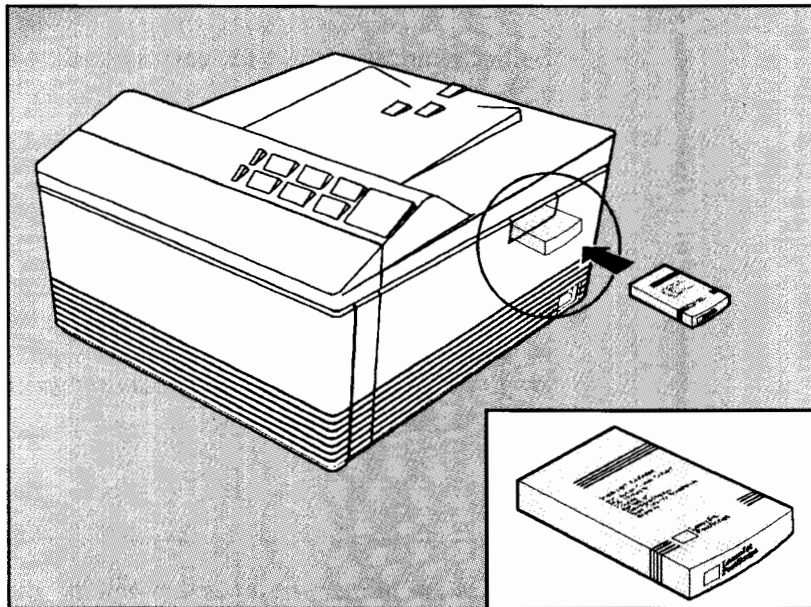

Figure 6-10. Inserting a Cartridge
3. Slide the cartridge into the slot on the right side of the printer and push until the cartridge is firmly in place (figure 6-10). You should hear and feel the cartridge snap into place. **Don't be afraid to push very hard.**